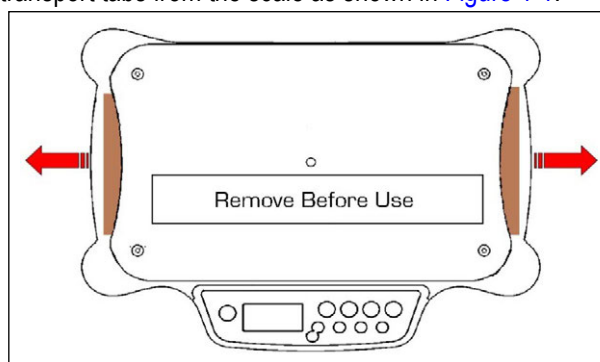

Figure 1-1. Angular Transport Tab Location
6. Remove the two angular transport tabs from the scale as shown in Figure 1-1.